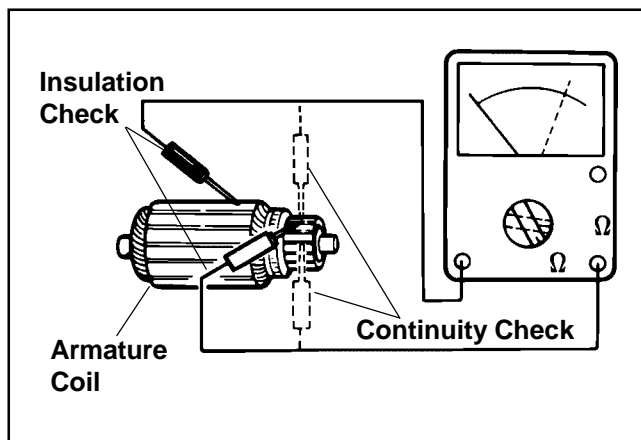

Figure 8-54. Checking Armature.
- Use an ohmmeter set to the Rx1 scale. Touch the probes between two different segments of the commutator, and check for continuity. See Figure 8-54. Test all the segments. Continuity must exist between all or the armature is bad.
- Check for continuity between the armature coil segments and the commutator segments. See Figure 8-54. There should be no continuity. If continuity exists between any two, the armature is bad.